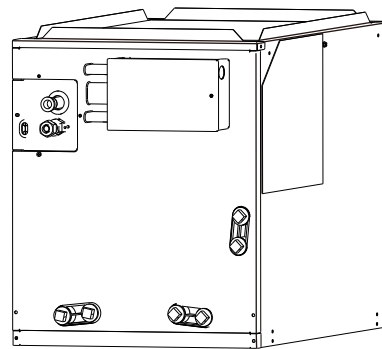

Fig. 3-4 Front view
2. Open the upper cover of the leak mitigation control kit, and fix the kit on the front or side of Acoil with self-tapping screws. Pay attention to the sponge pad in the accessory bag. This should be placed on the back of the mitigation kit to avoid damage to the A-Coil. See example in Fig 3-4.
(7) The kit is not allowed to be installed in the lower half of the coil front panel because there is a coil inside that could be punctured by screws. This area is shown by the shaded area in Fig.3-4.